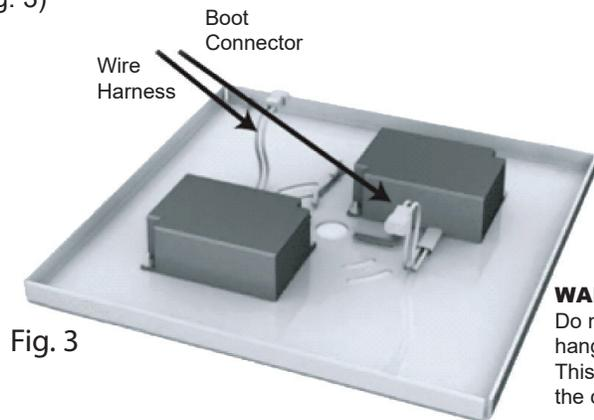

Fig. 3
4. Connect the LED driver harness(es) to the LED light engine and ensure that the rubber boot connectors are firmly attached. (Fig. 3)
5. Align the fixture's trim plate to the opening and secure using appropriate anchors and hardware. (supplied by others) (Fig. 3)